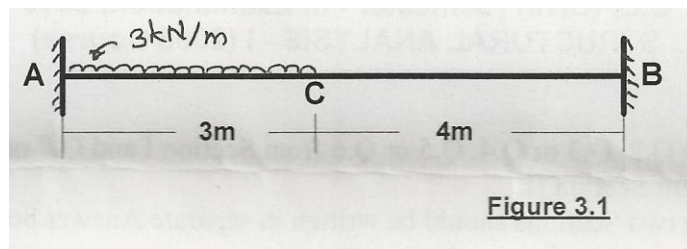

Figure 3.1
Q. No. 3 a) Using first principle approach, draw S.F.D. and B.M.D. for the fixed beam loaded as shown in Figure 3.1. (8)